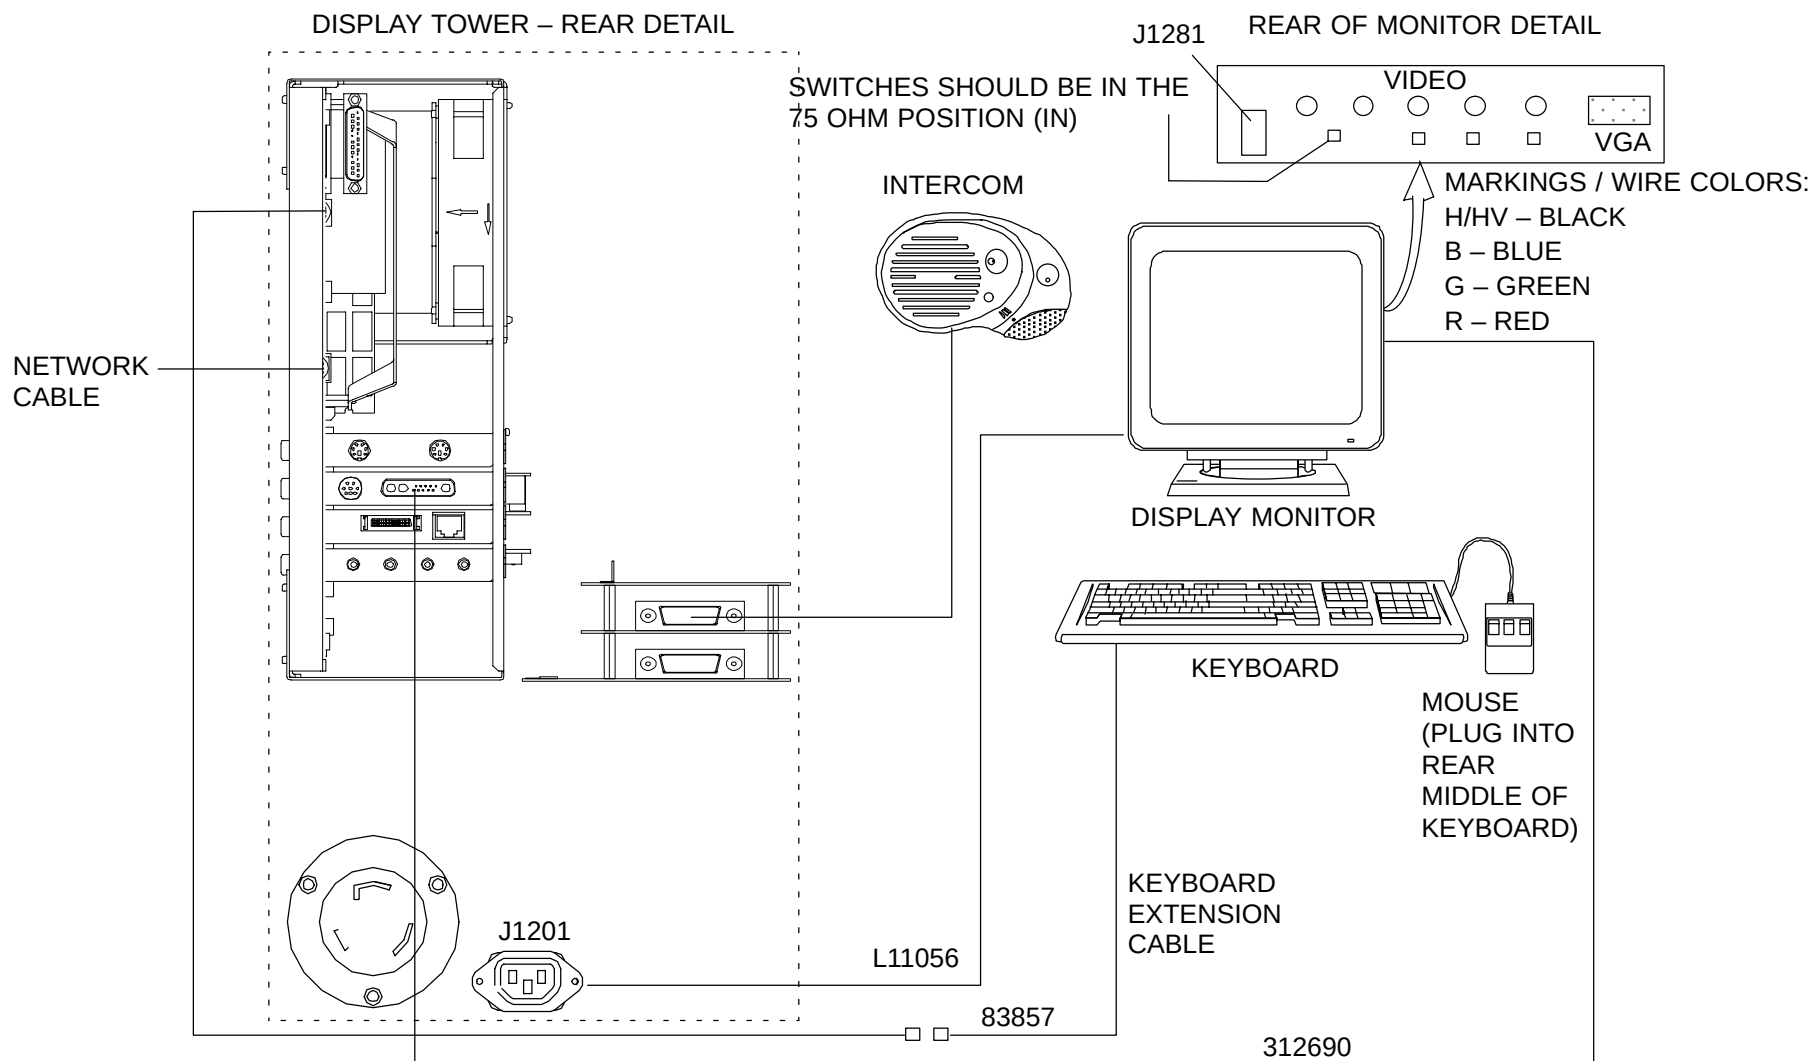
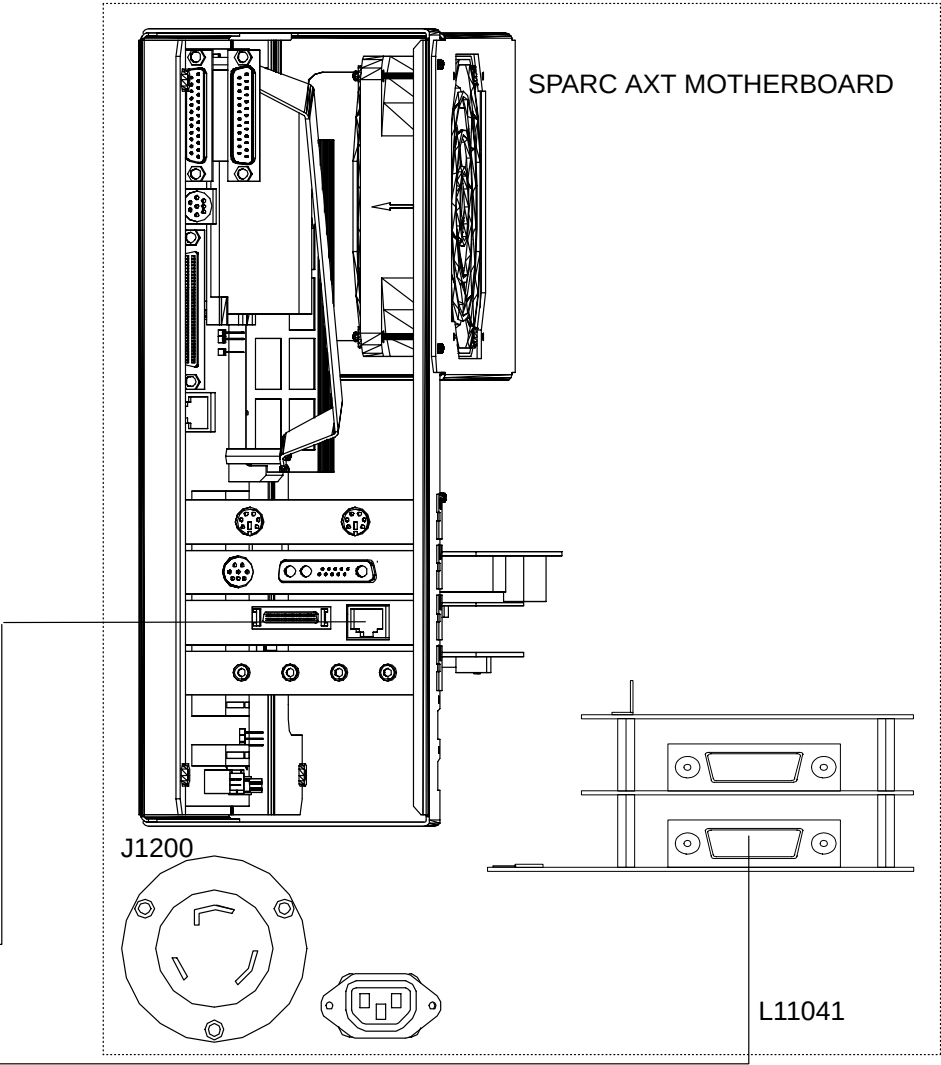
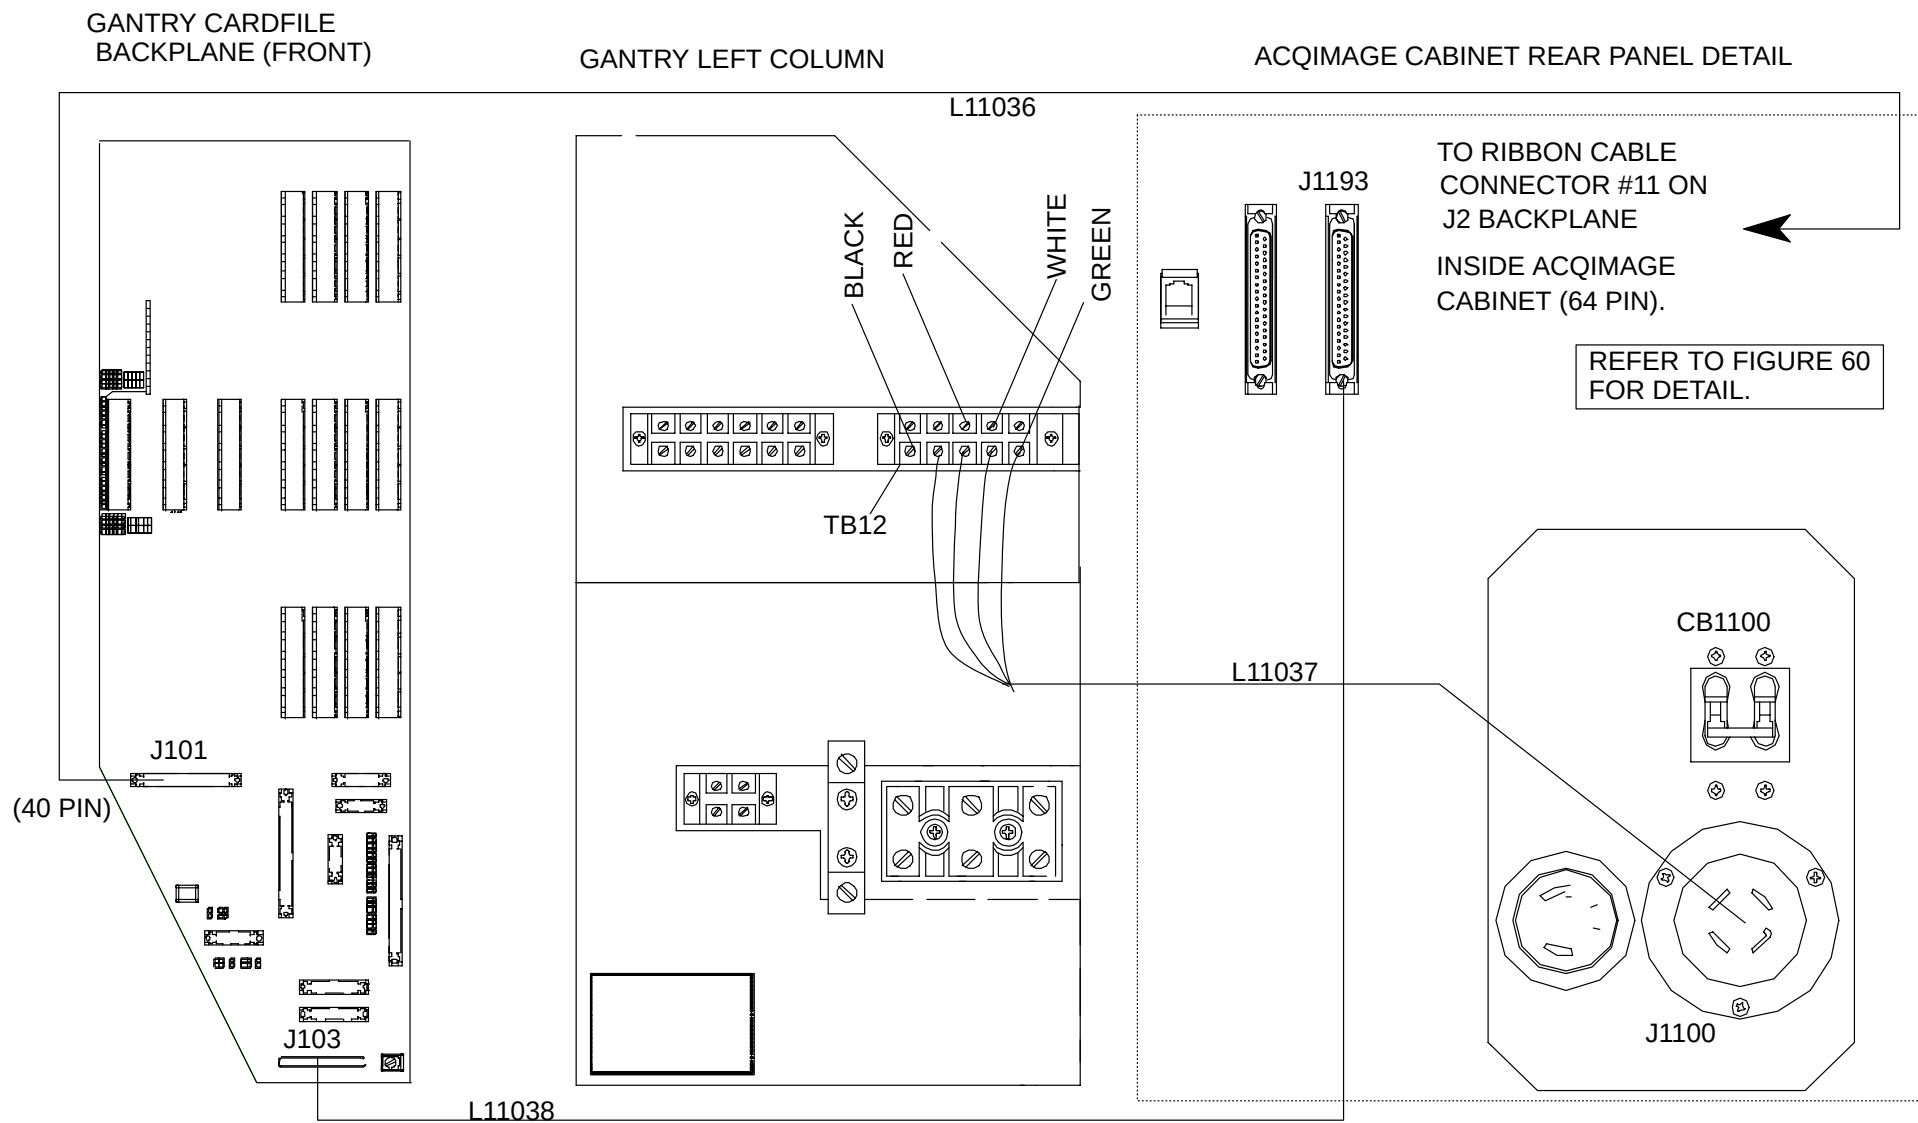

FIGURE 57 OPERATOR CONSOLE CABLING DETAIL
FIGURE 58 DISPLAY TOWER TO ACQIMAGE TOWER CABLING DETAIL
FIGURE 59 ACQIMAGE CABINET TO GANTRY CABLING DETAIL
2. Each portion of the entire system cabling, Operator Console, Display Tower to AcQImage Cabinet and AcQImage Cabinet to Gantry is detailed in Figure 57, Figure 58 and Figure 59 respectively.
REFER TO FIGURE 59 FOR DETAIL
NET. REFER TO FIGURE 58 FOR DETAIL.
TO FIGURE 57 FOR DETAIL.
1. Ensure all power has been removed from the system. Move the Display Tower to a clear position to permit cable installation. Use Figure 57 and **Table 1** for reference to this text.
3. Attach all of the cabling according to the diagram in Figure 57 and Table 1. *Refer to the following note before running the cables.*
Display Tower: The cables (312690, L11039, 83857, recon cable, intercom cable) must be routed inside the Display Tower. Remove the upper rear panel by removing the six screws. Make sure the cables run through and are secured by the hook and loop strain relief on the AC Chassis. Refer to Figure 57 and Figure 58.
1. Ensure all power has been removed from the system! Move the AcQImage Cabinet as required to a clear location to permit cable installation. Use Figure 58 and **Table 1** for reference to this text.
2. Cable lengths and routing have been established per site planning instructions. If not, then route the cables as necessary to accomplish an orderly, safe installation. Refer to Figure 58 and table 1.
Display Tower: The cables (312690, L11039, 83857, L11041, intercom cable) must be routed inside the Display Tower. Remove the upper rear panel by removing the six screws. Make sure the cables run through and are secured by the hook and loop strain relief on the AC Chassis. Refer to Figure 57 and Figure 58.
6. Run the 100 Base T4 Ethernet cable (P/N L11039) through the hole in the upper left of the rear cover to J1195 which is INSIDE the AcQImage cabinet (on a short adapter on the 100mb board.) Attach the other end to the Display Tower Ethernet port (J1252) on the Sparc motherboard as seen in Figure 58.
1. Ensure all power has been removed from the system! Move the AcQImage cabinet to a clear location to permit cable installation. Use Figure 59 and **Table 1** for reference to this text.
6. Plug in the Gantry Power cable (P/N L11037) into J1100 on the rear of the AcQImage Cabinet. Attach the other end to TB12 of the left Gantry column. Note the proper terminal strip connections as shown in Figure 59.
TABLE 1 ACQIMAGE TOWER AND DISPLAY CABINET CABLING CONFIGURATION**Operator Console Cabling: (Figure 57)**
Display Tower to AcQImage Cabinet: (Figure 58) **
AcQImage Cabinet to Gantry: (Figure 59) *